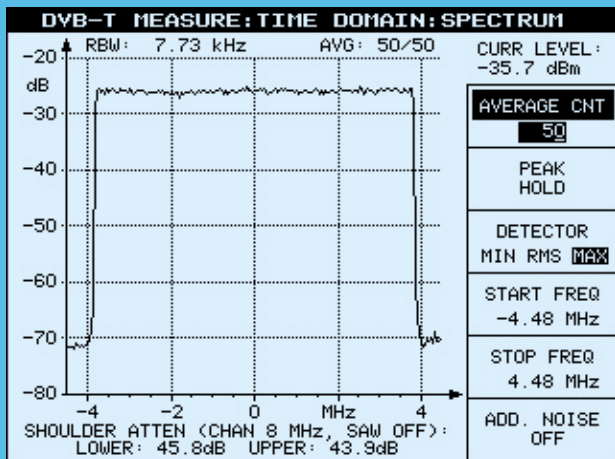

Fig. 8: Spectrum analysis
- ◆ Amplitude spectrum, including automatic shoulder attenuation measurement to ETR290 (Fig. 8)